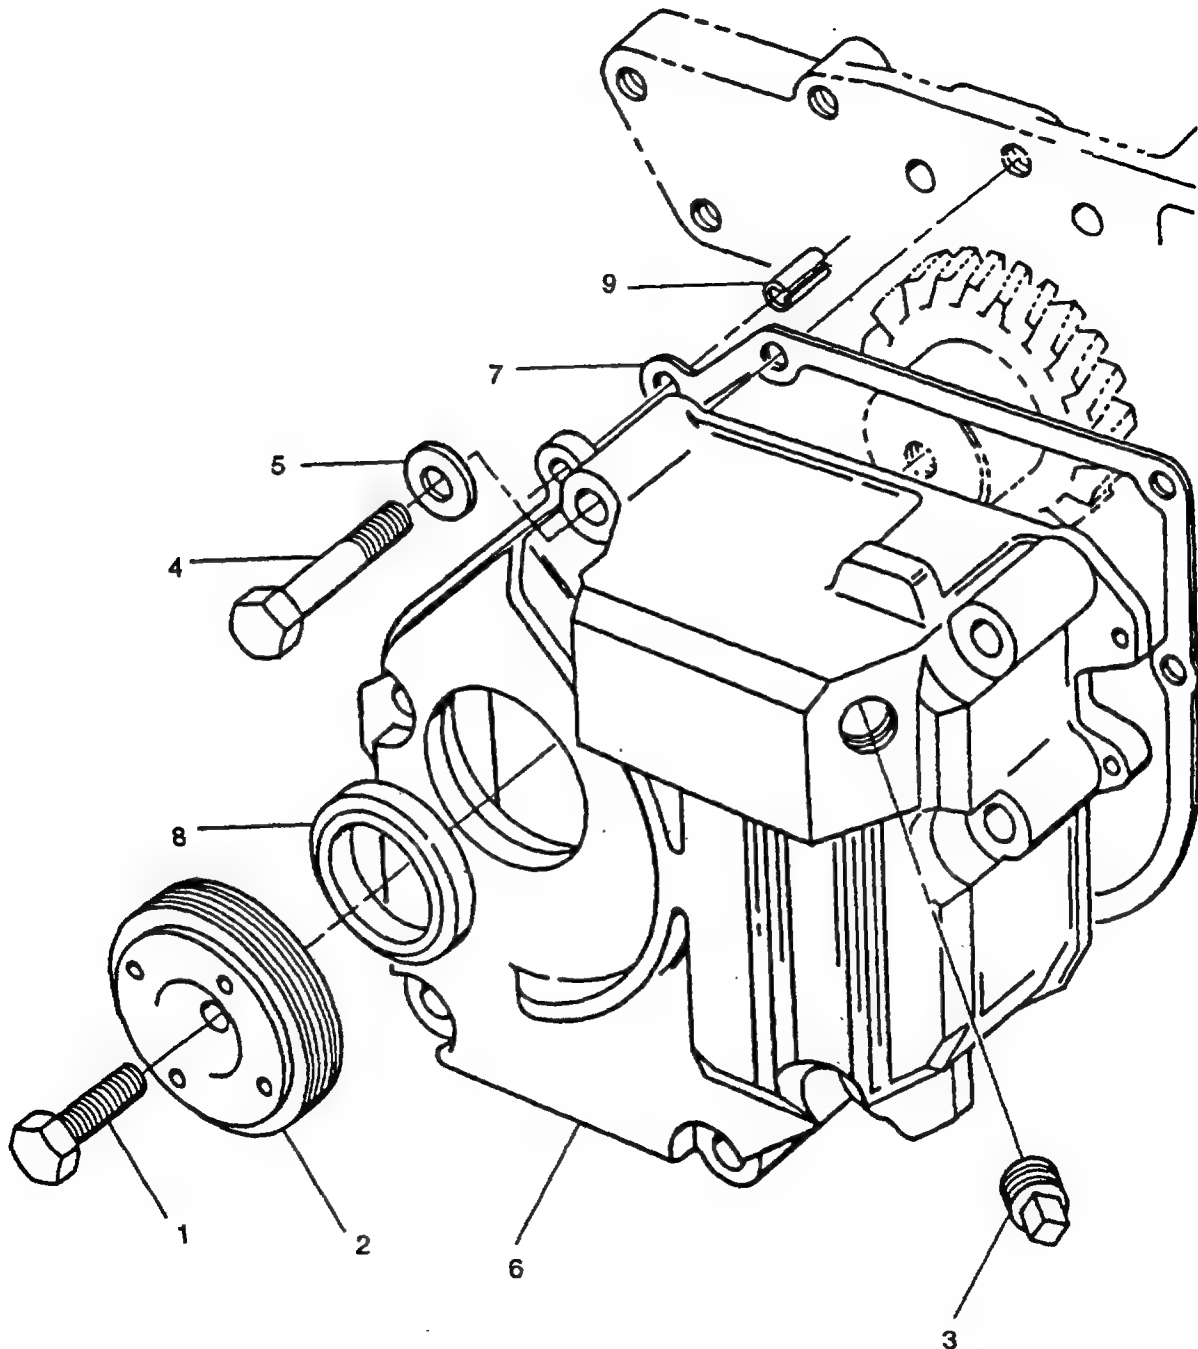
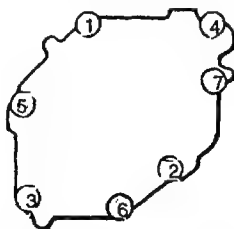

FIGURE 3-32. Gear End Cover
FIGURE 3-33. Gear End Cover Capscrew Tightening Sequence
Bolt (1, **FIGURE 3-32**) has left hand threads.
- a. Inspect crankshaft front oil seal (8, **FIGURE 3-32**) for excessive wear, damage, or signs of leakage.
- b. Inspect crankshaft pulley (2) for cracks and wear.
- c. Inspect end cover (6) for cracks or other physical damage.
- a. If removed, install two dowels (9 **FIGURE 3-32**), flat end first into crankcase fully.
- b. Install new seal (8) as follows:
- (1) Lightly grease sealing lip of new seal (8) with general purpose grease (630AA).
- (2) Position new seal (8) into outside neck of end cover (6), lip side first, and position it squarely on shoulder of seal boss.
- (3) Using suitable driver, drive seal into position in end cover (6).
- d. Install new gasket (7) dry, over two dowels (9), and onto crankcase.
- e. Install oil seal tool into outside face of oil seal (8).
- f. Install end cover (6), taking care to ensure new gasket (7) is not damaged and cover is correctly installed over dowels (9).
- g. Install seven capscrews (4) and washers (5) securing end cover (6) to crankcase. Tighten capscrews to 78 in-lbs (8.8 Nm) in sequence shown in **FIGURE 3-33**.
- h. Install plug (3).